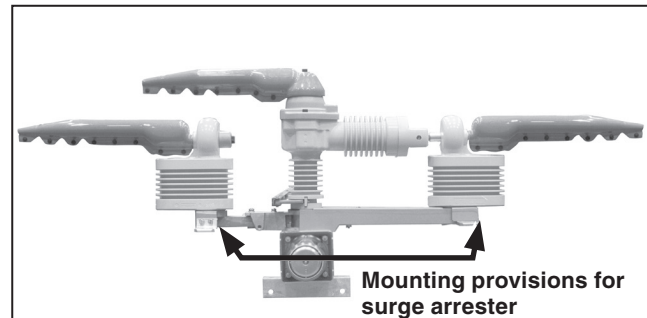

Figure 18. Installing surge arresters.
STEP 15. Install surge arresters (provided by others), if applicable, using the mounting provisions provided. Each surge arrester bracket is provided with two $\frac{1}{16}$ -inch (14-mm) diameter unthreaded holes and one threaded hole. Mount the surge arrester using one of the unthreaded holes and connect the surge arrester ground to one of the other holes. The threaded hole is sized to accept a distribution transformer ground connector with a $\frac{1}{2}$ -13-inch stud, such as Burndy Corporation Part Numbers KC22B2 and EQC632C. When properly installed and connected, the surge arresters are grounded through the switch base. A separate ground wire can be run between the arresters at the user's discretion. See Figure 18.